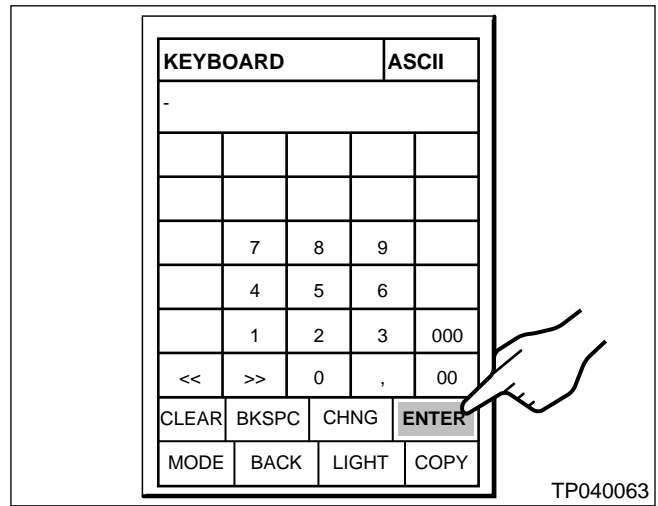

Figure 14
- g. Once the entire VIN is entered, select **ENTER** on the "Keyboard" screen. See Figure 14.